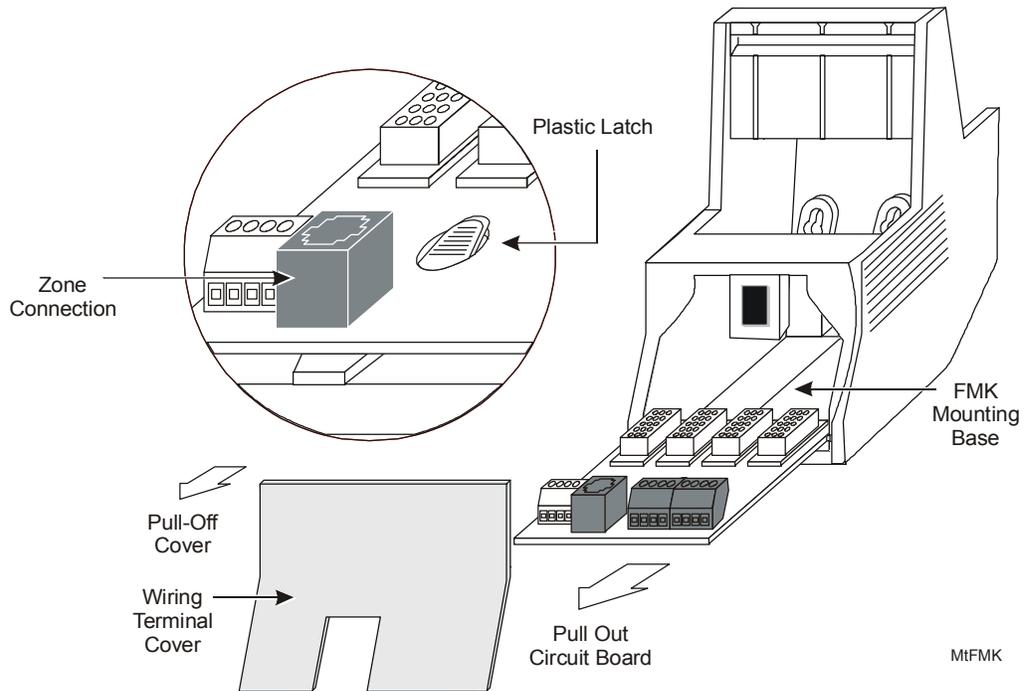

Figure 33: Mounting the FMK
- Remove the wiring terminal cover, pulling it off the unit (Figure 33).